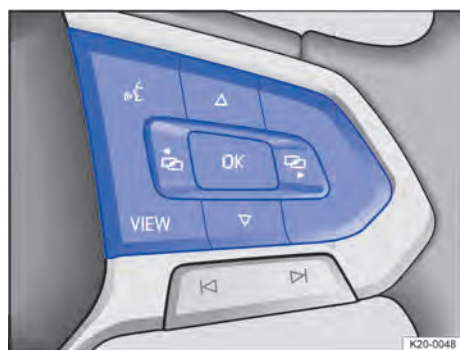

Fig. 10 Right-hand side of the multifunction steering wheel: controls for using the menus and information displays in the instrument cluster.
Vehicles with multifunction steering wheel: If any priority 1 warnings are displayed, you will be unable to open any menus → page 20. Some warnings can be confirmed and hidden with the **OK** → Fig. 10 button on the multifunction steering wheel.
The main display can be changed by pressing the **(VIEW)** → Fig. 10 button. The following views can be shown in the display area:
2. Press the **(OK)** → Fig. 10 button, several times if required, if a message or the vehicle pictogram is displayed.
3. Press the **(←)** or **(→)** → Fig. 10 button to display the menus and to browse through a menu.
4. To open the menu or information display shown, press the **(OK)** button → Fig. 10 or wait until the menu or information display opens automatically after a few seconds.
1. Select the right or left secondary display area with the **(↶)** or **(↷)** → Fig. 10 buttons on the multifunction steering wheel.
2. Select the desired secondary display with the **(△)** or **(▽)** → Fig. 10 arrow buttons.
3. Confirm the selection with the **(OK)** → Fig. 10 button.
1. Press the arrow buttons **(△)** or **(▽)** → Fig. 10 in the displayed menu until the desired menu option is highlighted.
2. Press the **(OK)** button → Fig. 10 to make the required changes.
1. Press the  or  → Fig. 10 button.
— To switch between the current and previous menus, press the  button → Fig. 10.
— Press and hold the  → Fig. 10 button to show or hide secondary displays.
Depending on equipment, the digital instrument cluster may display a detailed navigation map. To display the map, select the **Navigation** display area in the digital instrument cluster by pressing the  → Fig. 10 button on the multifunction steering wheel.
1. To zoom in and out, press the  or  → Fig. 10 arrow button on the multifunction steering wheel.